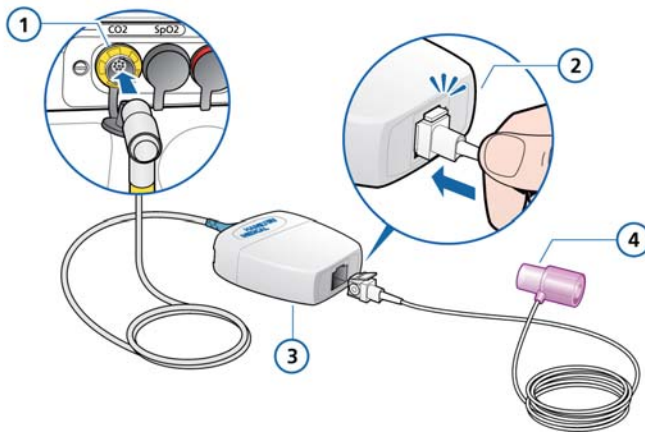

Figure 2-11. Inserting the sample cell into the CO2 module
1. Plug the LoFlow™ sidestream CO2 module cable into the CO2 option board connector (yellow), observing the orientation of the indexing guides on the connector body. The cable snaps into place. See Figure 2-11.
2. Plug the sample cell into the CO2 module as shown in Figure 2-11. The connector “clicks” into place.